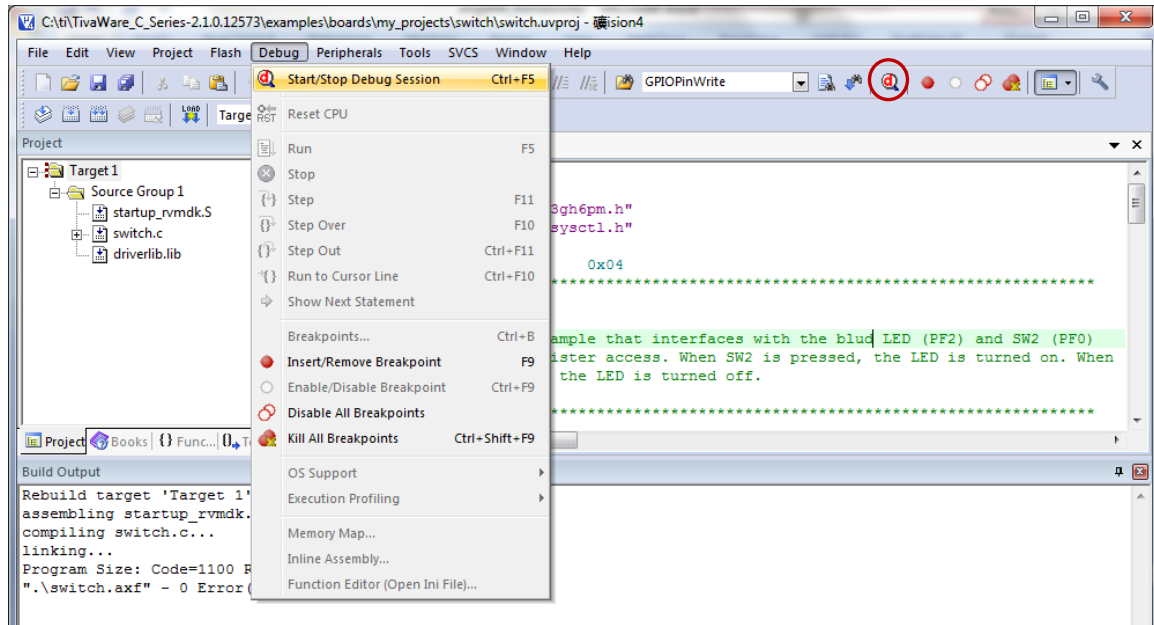

Figure 9
9. Debug and run the program. Select Start/Stop Debug Session from the Debug menu or click the Debug button (icon) (see Figure 9).